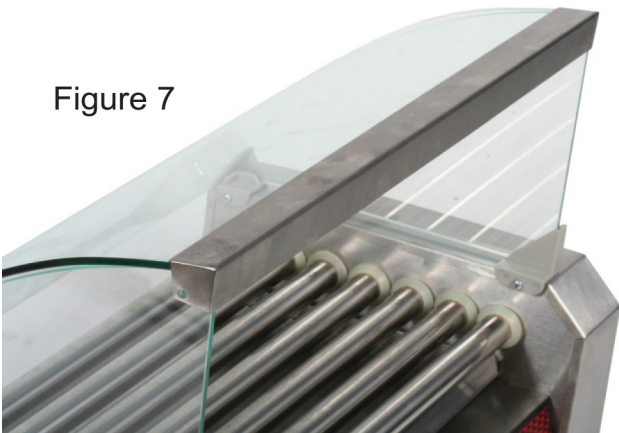

Figure 7
6. Set the front stainless trim rail (E) onto the edge of the top glass. Ensure that the holes in the ends of the trim rail line up with the holes in the top corners of the side glass (A). See figure 7.